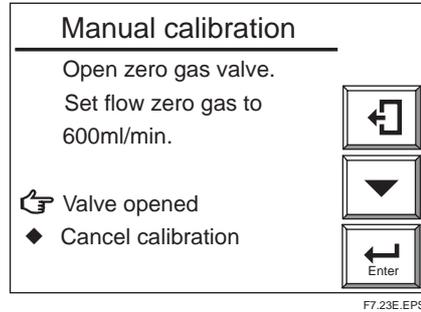
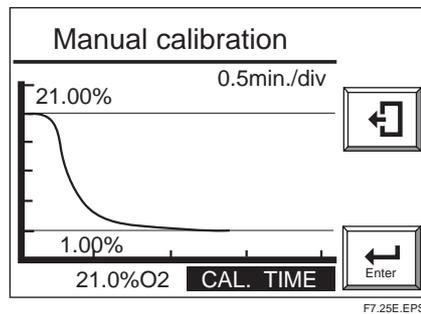

Figure 7.23 Zero-gas Flow Display (for Manual calibration)
Figure 7.25 Manual Calibration, Trend Graph
- (7) Follow the instructions in the display as in Figure 7.23 to turn on the zero gas flow. To do this, open the zero-gas flow valve for the Flow Setting Unit and adjust that valve to obtain a flow of 600 ± 60 ml/min. (The valve should be adjusted by loosening its lock nut and slowly turning the valve shaft counterclockwise. Use the calibration gas flowmeter to check the flow.)
- (8) If “Valve opened” is selected as in Figure 7.23, an oxygen-concentration trend graph (with the oxygen concentration being measured) appears (see Figure 7.25). The “CAL. TIME” in the bottom area of the panel flashes. Observe the trend graph and wait until the measured value stabilizes in the vicinity of the zero-gas concentration on the graph. At this point, no calibration has been executed yet, so even if the measured value is above or below the zero-gas concentration value, no problem occurs.